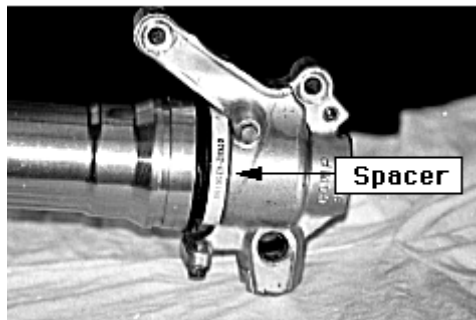
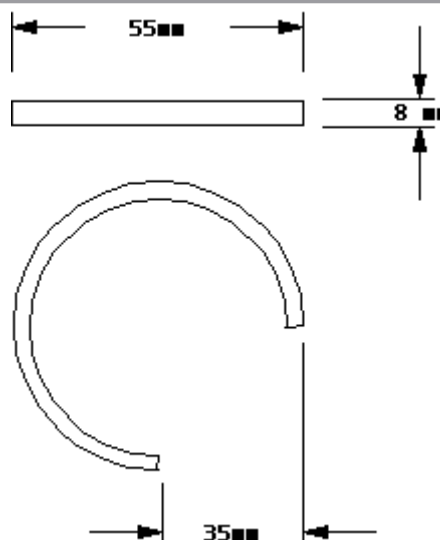

Fig 1
Fig 2
2. Put the spacer (Suzuki part number 09940-54850 or Honda part number 07KMZ-KZ30108)) on the bottom of the inner tube, **fig 1**. This spacer prevents the dust seal from damage while the inner tube is compressed). A spacer can be made from PVC pipe, **fig 2**.
38. Attach the spacer on the bottom of the inner tube and lower the outer tube down, **fig 1**.